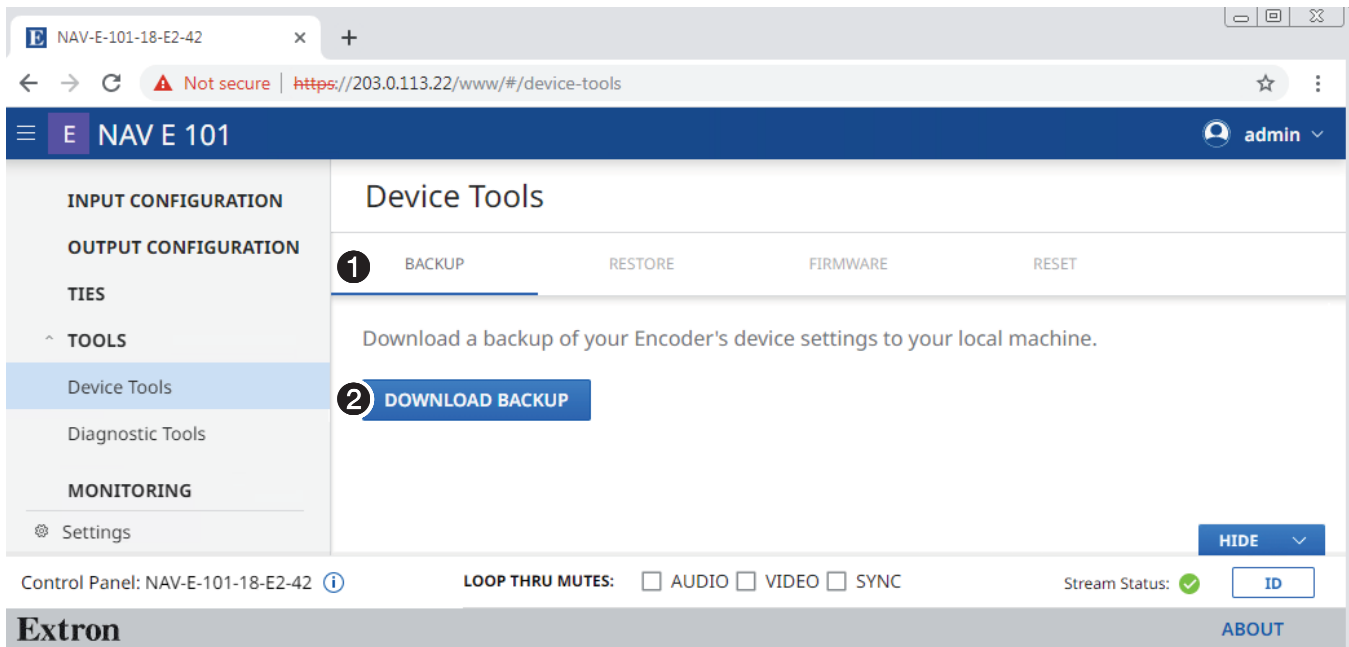

Figure 27. Device Tools Page
The **Tools** pages provide tools for the encoder (**Device Tools**) and a tool for diagnosing communications (**Diagnostic Tools**). To access the **Settings** pages, if necessary, click the **Menu** link (see **figure 12**, 1 on page 18). Click **Tools** (see 1 at right) and either **Device Tools** (2) or **Diagnostic Tools** (3). The browser displays the selected **Tools** page (see **figure 27** on page 33, which shows the **Device Tools** page selected).
The Tools page consists of four tabs (see figure 27, 1 on page 32), Backup (see “Backup tab,” below) Restore (see Restore tab on page 34), Firmware (see Firmware tab on page 36) and Reset (see Reset tab on page 37) that provide encoder tools.
1. On the Device Tools page, click **Backup** (see figure 27, 1).